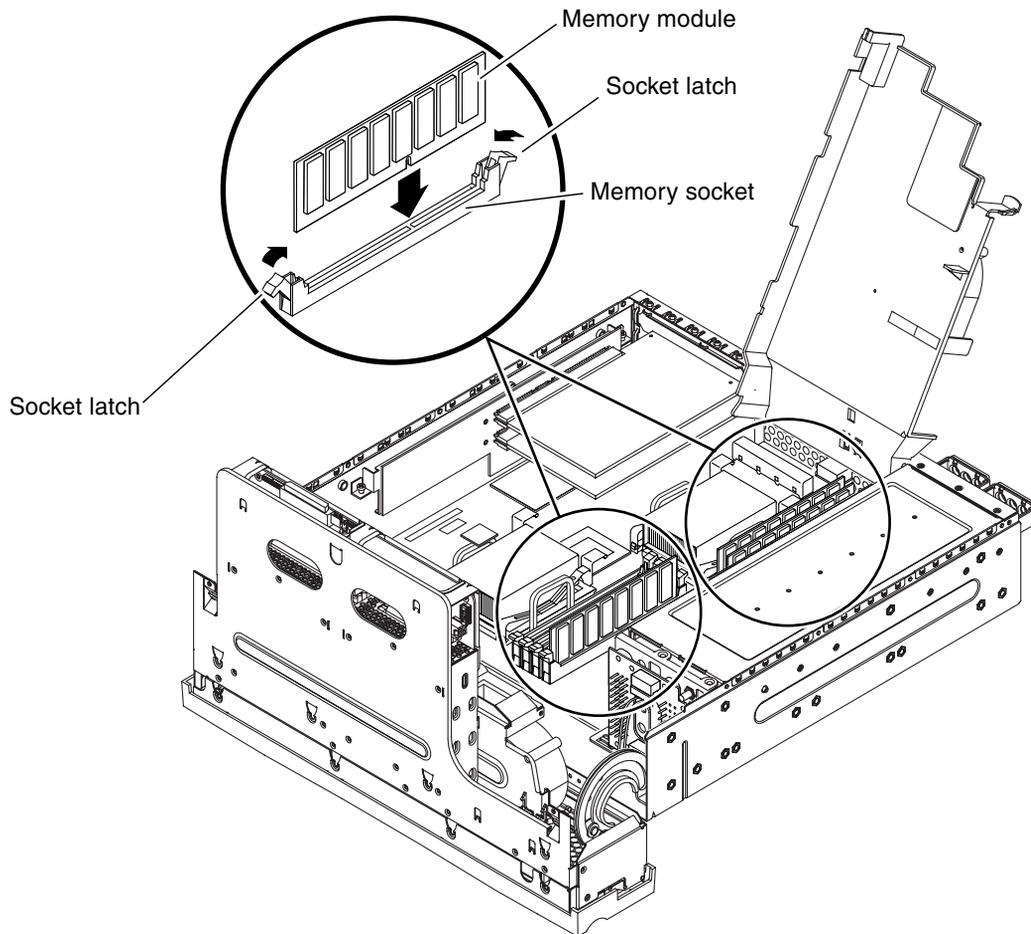

FIGURE 5-3 Removing and Inserting Memory
6. Press down on the latches at the sides of the memory socket (FIGURE 5-3).
2. **Locate the correct memory socket (FIGURE 5-3).**